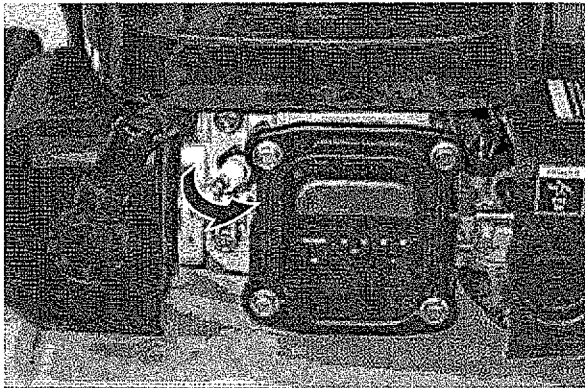

Figure 65 – Removing Spark Plug WP2500 and WP2800
5. Remove the spark plug from the cylinder head (see Figure 65).